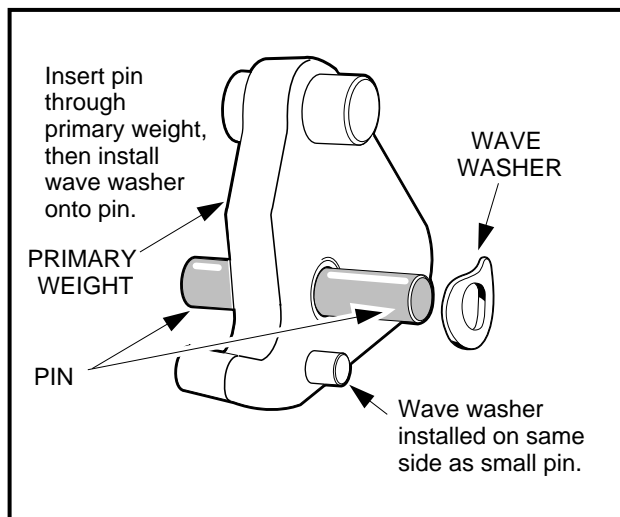

Figure 17-12 Install Pin and Washer
- 5.3. Before removing, note the orientations of the wave washer and of the primary and secondary weights to one another (**Figures 17-12 and 17-13, Page 17-10**). Remove the plastic washers, weights and wave washer from the pin. Retain all parts.
7. Install the primary weights on the mounting pins (**Figure 17-12, Page 17-10**).
8. Install a wave washer on each mounting pin. Make sure that the concave side of the washer faces the side of the primary weight with the small guide pin protruding from it (**Figure 17-12, Page 17-10**).